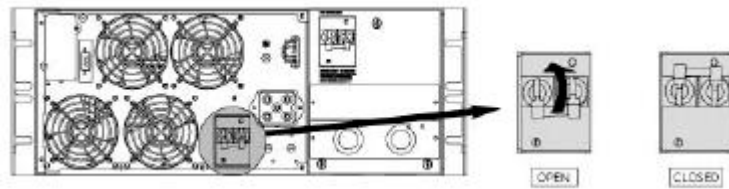

FIG 45 – 6KVA OUTPUT CIRCUIT BREAKER
8. Close the OUTPUT CIRCUIT BREAKER on the rear side of the UPS (FIG 45).